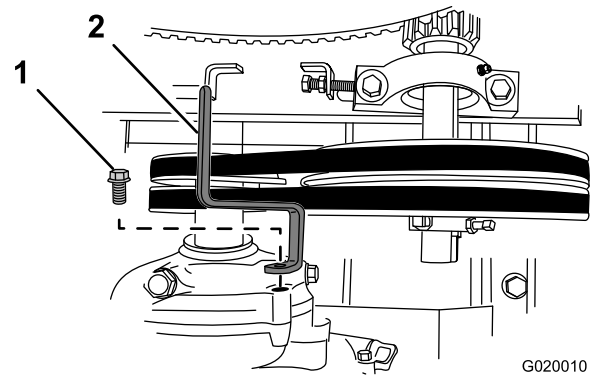

Figure 66
3. Remove the bolt that secures the belt guide to the engine, and remove the belt guide (Figure 66).
7. Loosely secure the belt guide to the engine (Figure 66) with the bolt that was removed in step 3 of Removing the Belts (page 39).